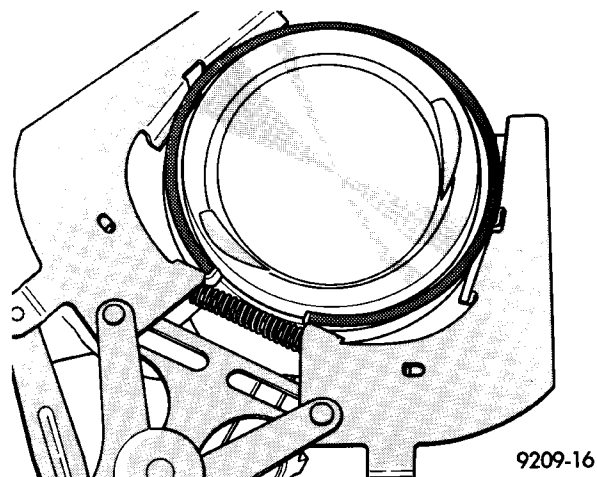

Fig. 45 Piston Rings—Removing and Installing
(3) Top ring gap must be positioned at 30 degrees to the right of the combustion chamber recess (looking at the piston crown from above).
(4) Second piston ring gap should be positioned on the opposite side of the combustion chamber recess.
(5) Oil control ring gap to be located 30 degrees to the left of combustion chamber recess.
(6) When assembling pistons check that components are installed in the same position as before disassembly, determined by the numbers stamped on the crown of individual pistons. Engine cylinders are numbered starting from gear train end of the engine. **Face chamber recess side of piston towards camshaft**. Therefore, the numbers stamped on con rod big end should also face in the same direction. To insert piston into cylinder use a ring compressor as shown in (Fig. 45).
(1) Install rings on the pistons using a suitable ring expander (Fig. 45).